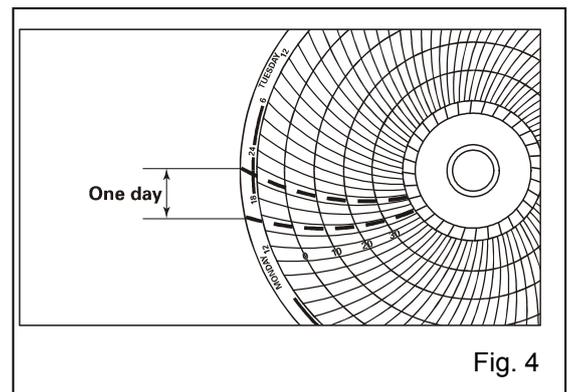

Fig. 4
4. Disconnect the battery connector and remove two screws fixing the battery mounting plate. (Fig. 4)